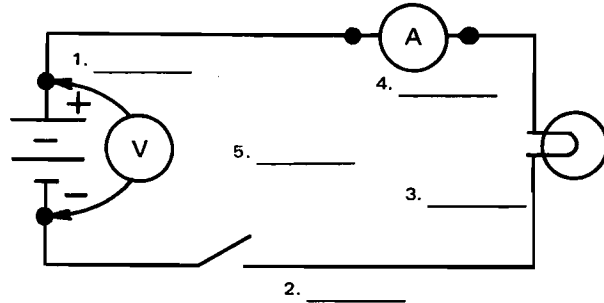

Fig. 2-1-2
13. Refer to electric circuit in Fig. 2-1-2 and indicate name of each numbered electrical symbol.
14. If switch in Fig. 2-1-2 is turned on, indicate direction of current flow with arrows.
4. The battery in Fig. 2-1-2 provides _____.